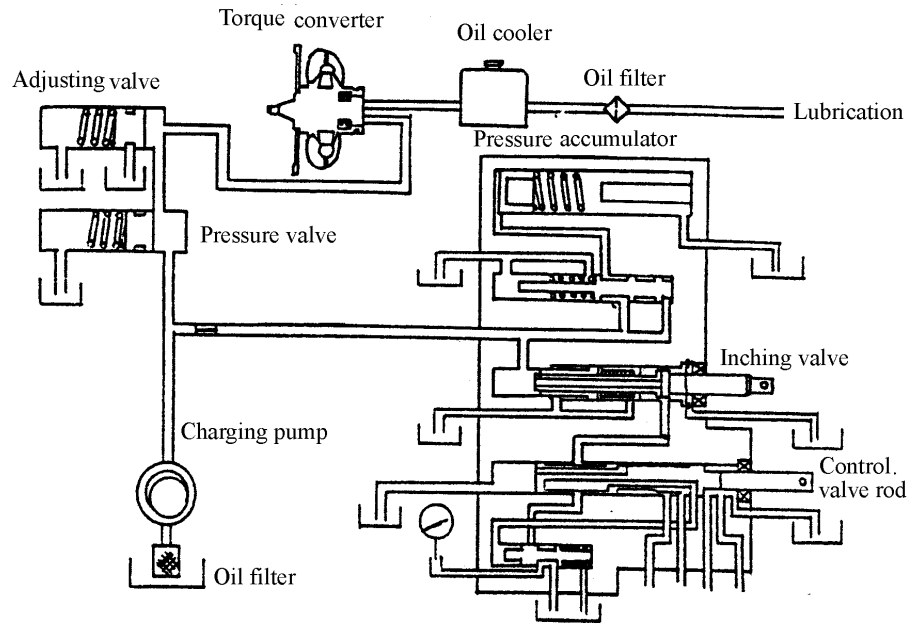

Fig. 2.7 Hydraulic circulation system
2.6 Hydraulic circulation system (see Fig. 2.7)